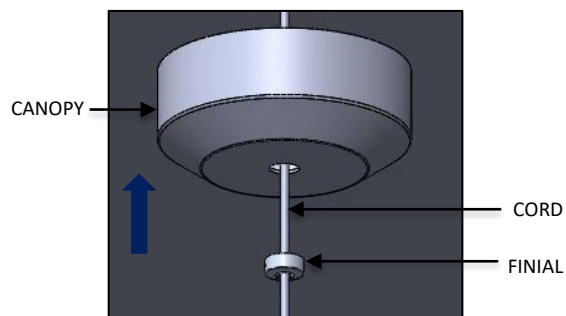

FIG. 8 – CORD ASSEMBLY
4. Feed the CORD through FINIAL and CANOPY as shown below in fig. 8.